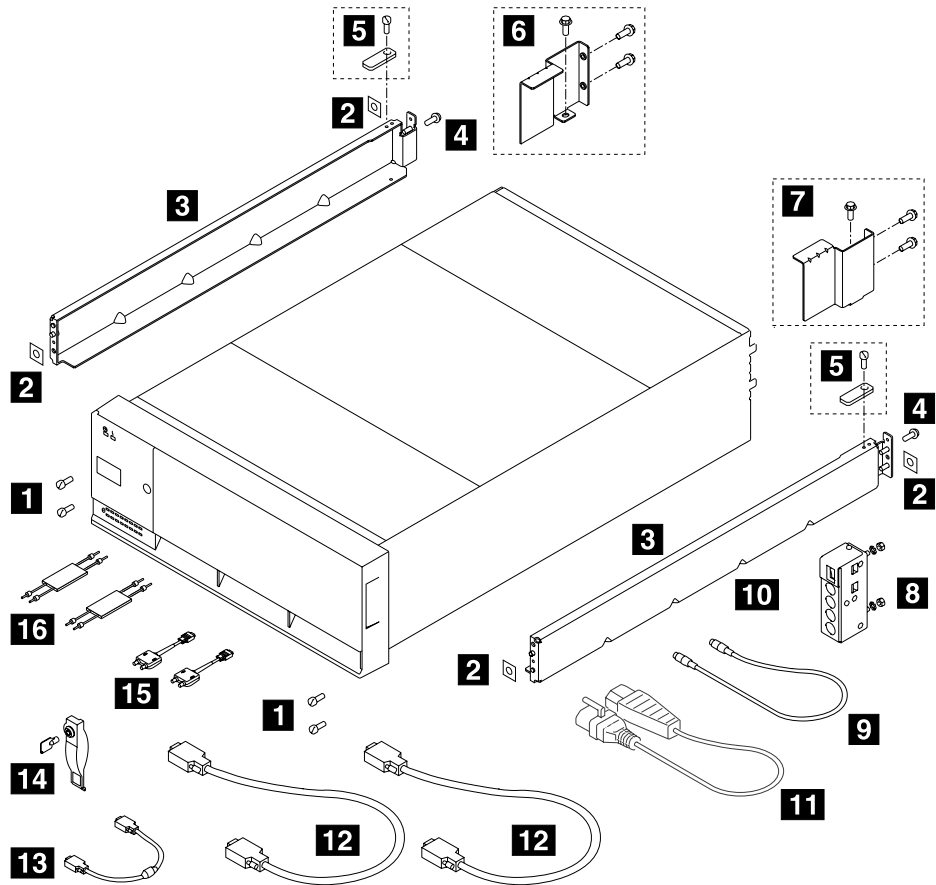

Figure 2. Items for the 7133 Model D40 in an RS/6000 Rack
Step 1. Refer to Figure 2 on page 5.
- Figure 2 on page 5 shows support rails, screws, and nut clips for RS/6000 racks. If you are installing the 7133 into a Netfinity rack, refer to “Checking Items that Are Specific to a Netfinity Rack” on page 7 for the equivalent items.